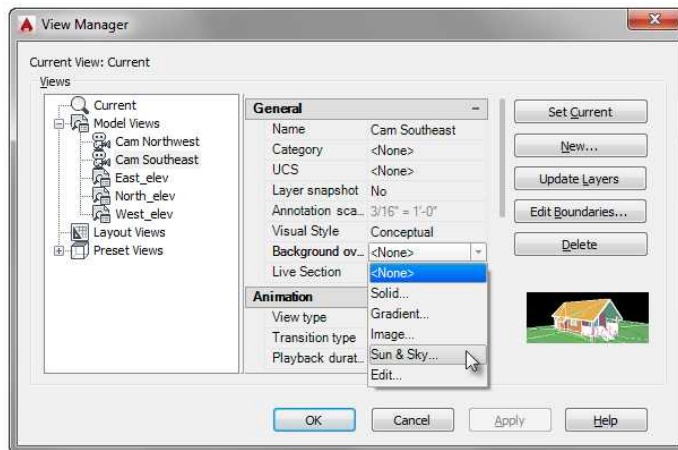

FIGURE 17.22 The Cam Southeast camera selected in the View Manager dialog box
4. Expand the drop-down list for the Background Override entry in the General rollout, and then choose Sun & Sky, as shown in Figure 17.22.